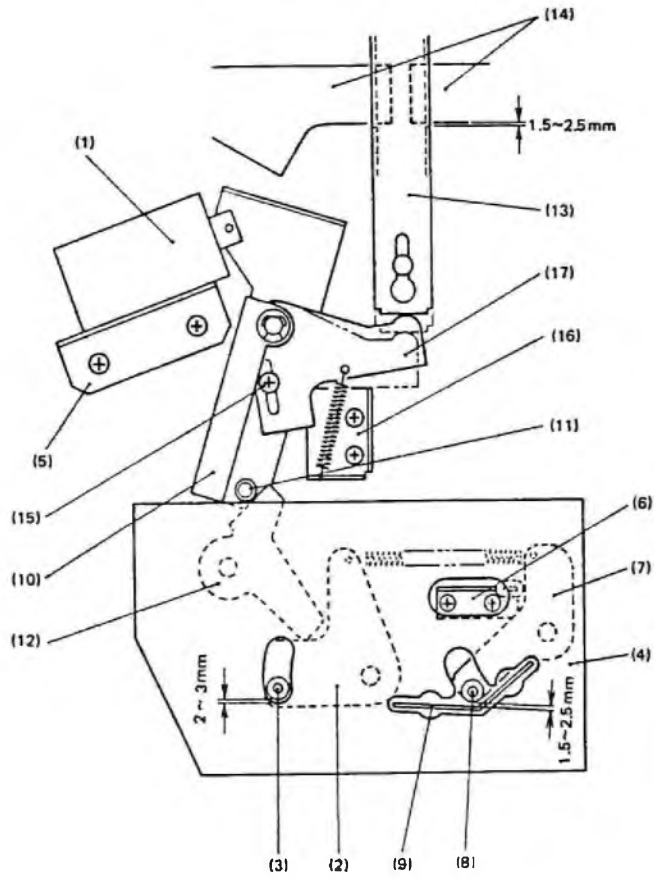

Fig. 5.6
NOTE: a) Referring to Fig. 5.6, loosen the two screws holding Bracket Stopper (16), shift the Bracket Stopper downward, and tighten the two screws previously loosened.
a) Referring to Fig. 5.6, with the solenoid (1) plunger bottomed, the solenoid bracket (5) position is adjusted so that the gap between the rubber sleeve on the lifter pin (3) and the lower part of the perpendicular hole in the base guide (4) is 2 ~ 3mm.
b) With the plunger still bottomed as before, the lifter stopper (6) is moved left or right so that the gap between the rubber sleeve on the lifter pin (8) on the lifter arm (7) and the shield plate (9) is 1.5 ~ 2.5mm.
c) With the plunger of solenoid (1) bottomed, push Lever (17) upward by 5mm, then tighten screw (15).